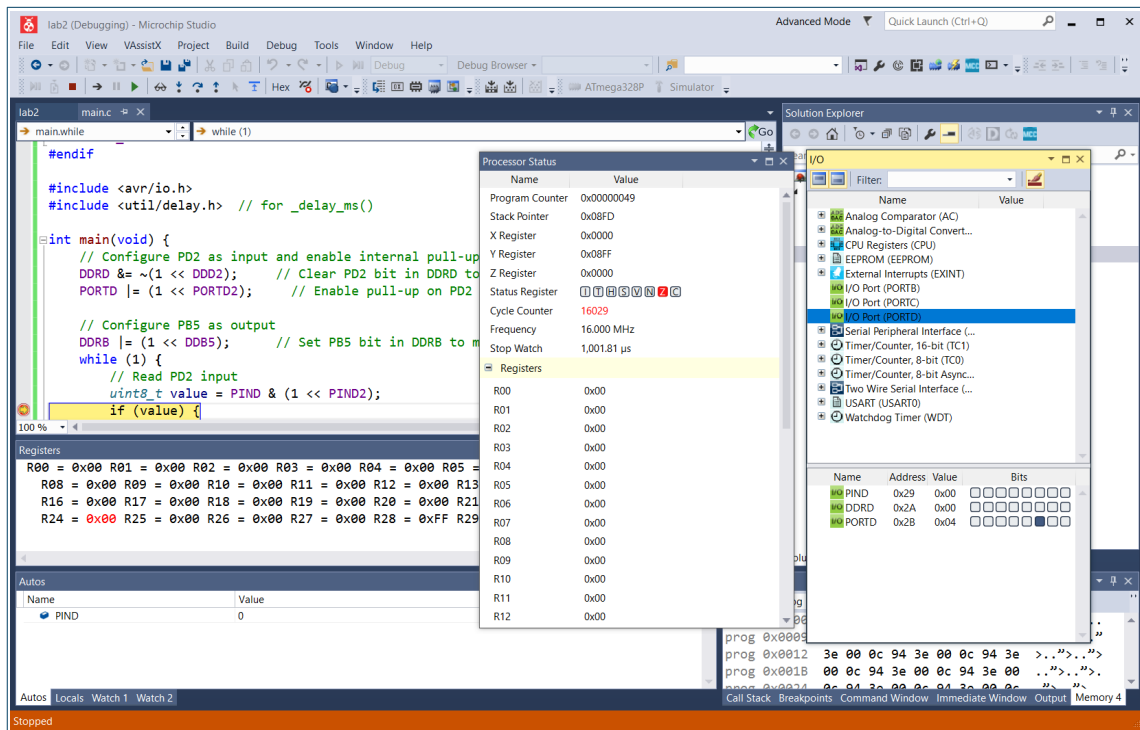

Figure 9: Debug Session (Observing I/O Port D)
- 2.2 Set breakpoints on the desired lines of code in **main.c** before stepping through the compiled code (see **Figure 9**).
- 2.3 Open the **I/O View**. Set or clear **Bit 2 of PORTD** to simulate changes in the input state during the code debug process (see **Figure 9 and 10**). Step through the code and observe the corresponding changes in **Bit 5 of Port B** and **Bit 2 of Port D**.